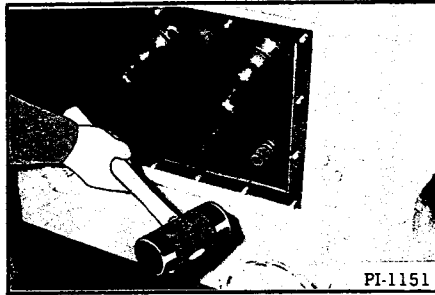

Fig. 42 Driving Jackshaft Half
8. Drive the jackshaft half toward the center of the machine with a rubber or plastic mallet (Figure 42).